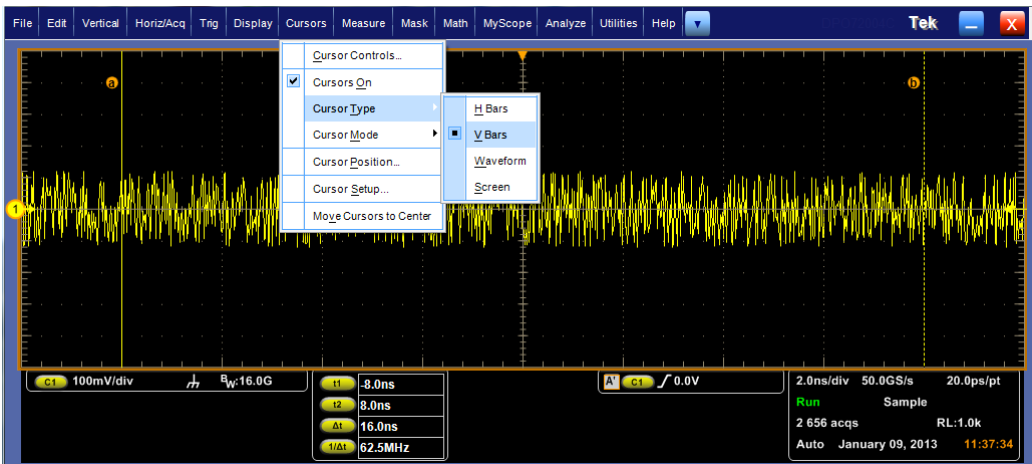

Figure 8 Using cursors
6. Turn on the Cursors. Click on Cursors menu and select Cursors On. Ensure that the Cursor Type is set to V Bars. Refer to Figure 8.